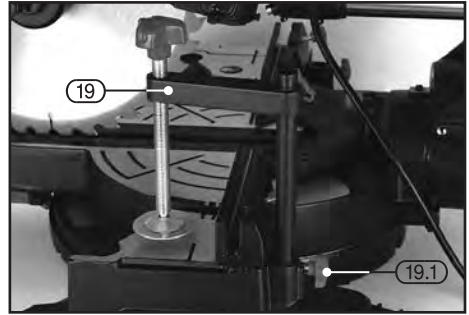

FIG.5
8.5 WORKPIECE VICE ASSEMBLY – FIG.5